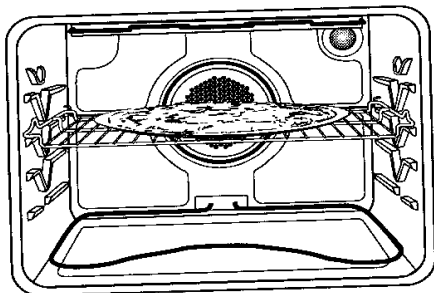

Figure 2.
- Most foods are cooked on rack position #3o. (See Figure 2.)